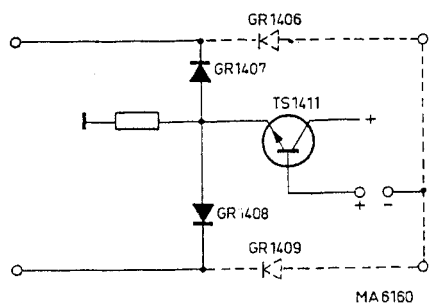

Fig. 21.
The conducting diodes GR1407 & 1408 short-circuit this signal (Fig. 21).
2. Base TS1411 positive (Fig. 21):